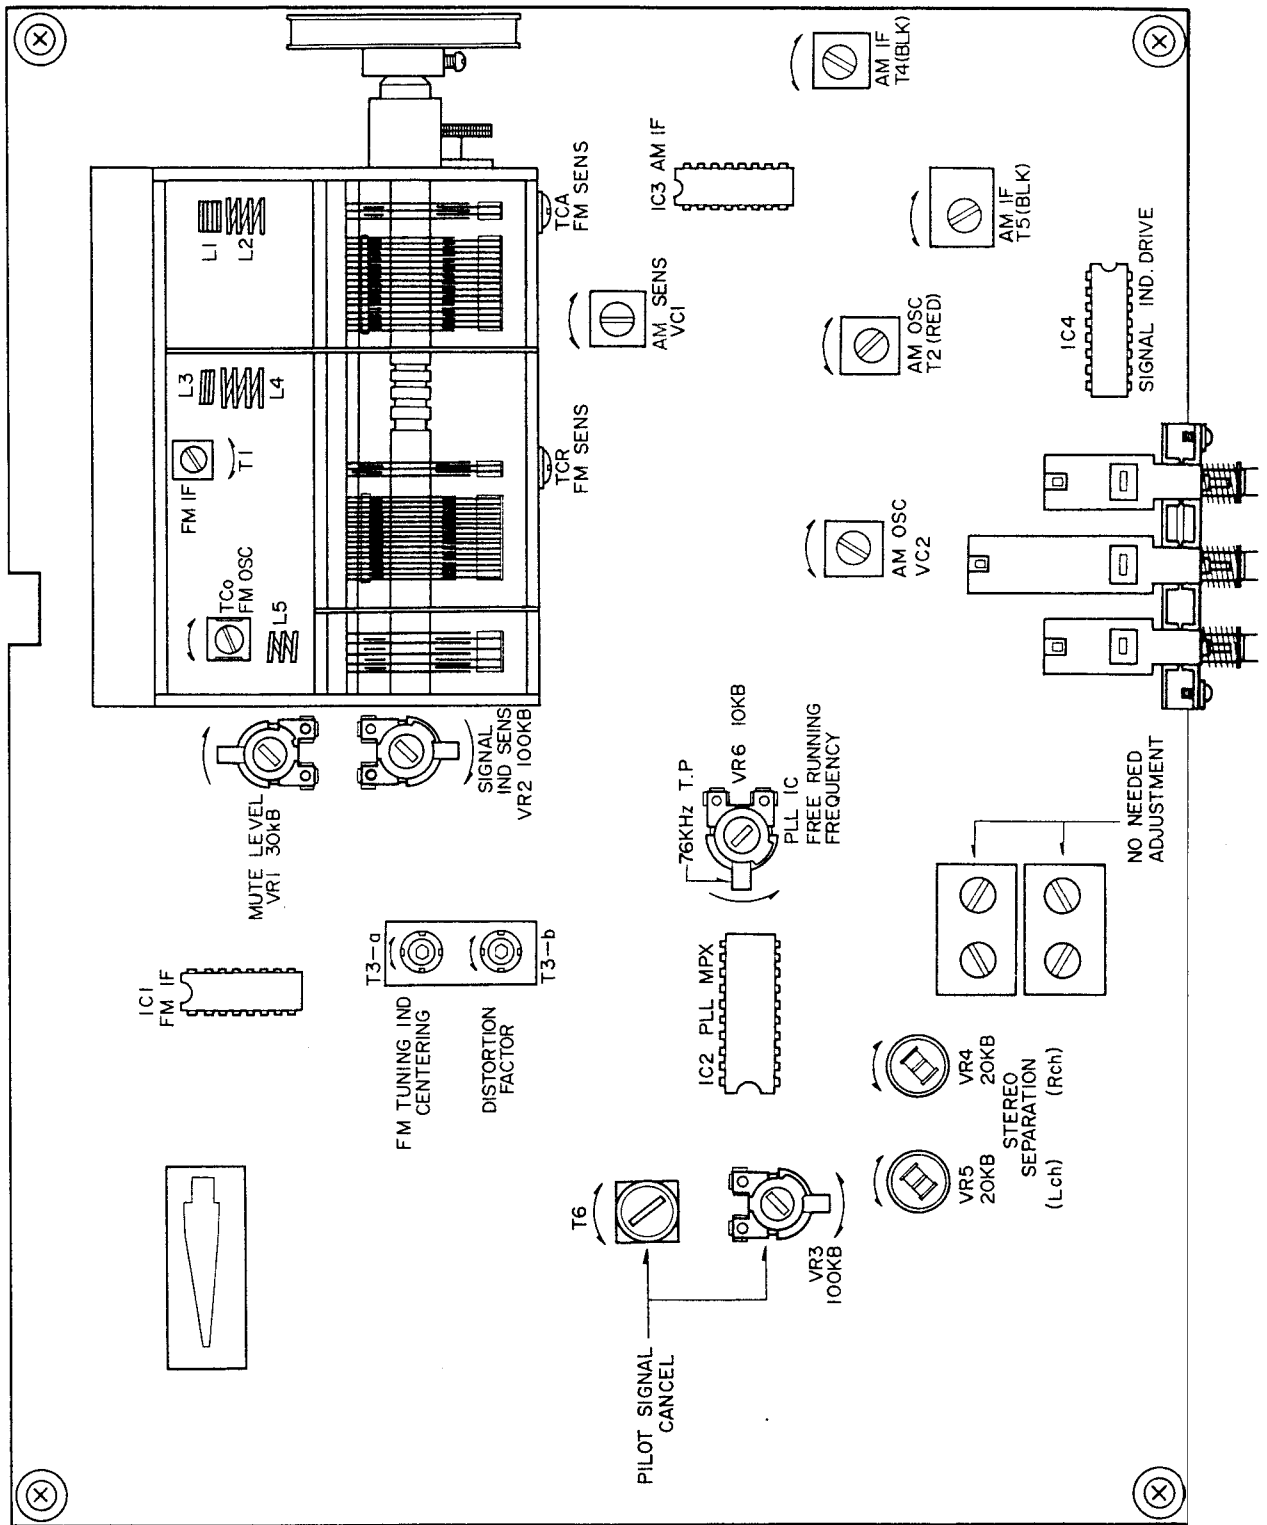

Fig. 5 Tuner P.C Board ATK-2001A
1. FM TUNER SECTION ADJUSTMENT (Refer to Figs. 5, 6)
## 2. AM TUNER SECTION ADJUSTMENT (Refer to Figs. 5, 7)